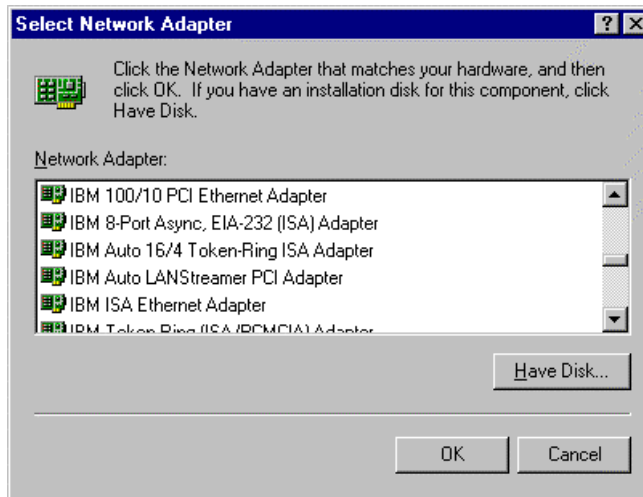

Figure 3-3. Add Network Adapter
3. From the **Select Network Adapter** screen (Figure 3-3), click the **Have Disk...** button.